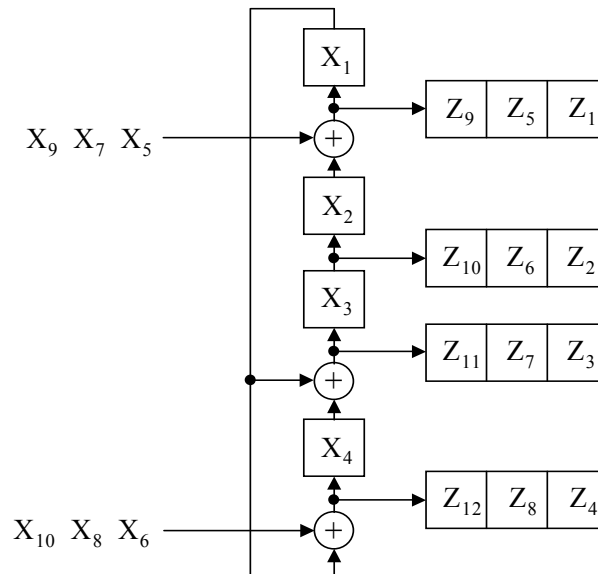

Figure 2
2. Consider the sequential decompressor circuit shown in figure 2. Evaluate the circuit and find out the set of linear equations. Find the compressed stimulus needed to encode the following test cube:  $\langle Z_1, Z_2, \dots, Z_{12} \rangle = \langle 0 - - - 1 - 0 - - 110 \rangle$